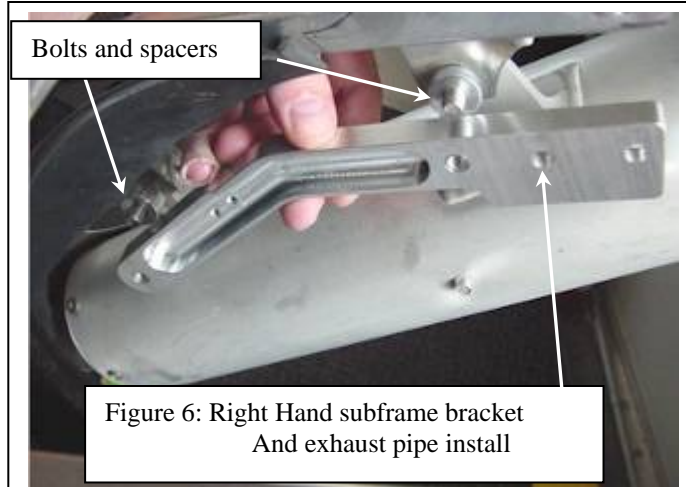

Figure 6: Right Hand subframe bracket
15. Installing the **Right Hand subframe bracket and exhaust pipe** on the bike(**Figure 6**):